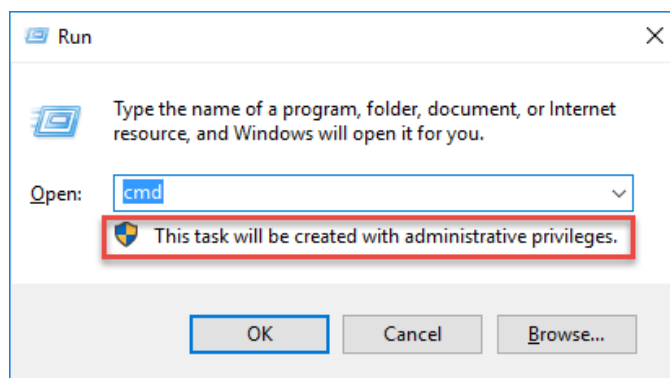

Figure 127: Run Window with Administrative Privileges
2. Type **cmd**. Ensure that the message, "This task will be created with administrative privileges" is displayed (Figure 127).